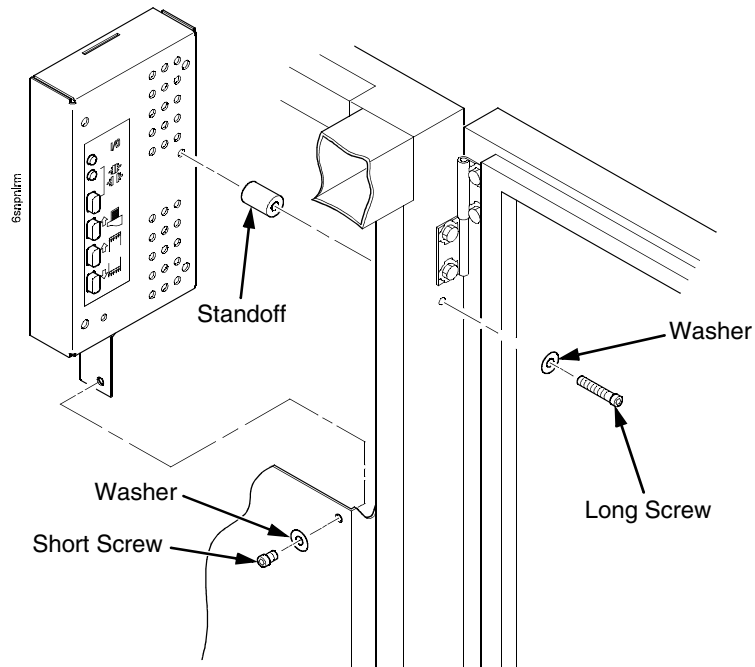

Figure 78. Removing the Stacker Control Panel
13. Remove two screws, washers, and the standoff from the stacker control panel. (Figure 78.)